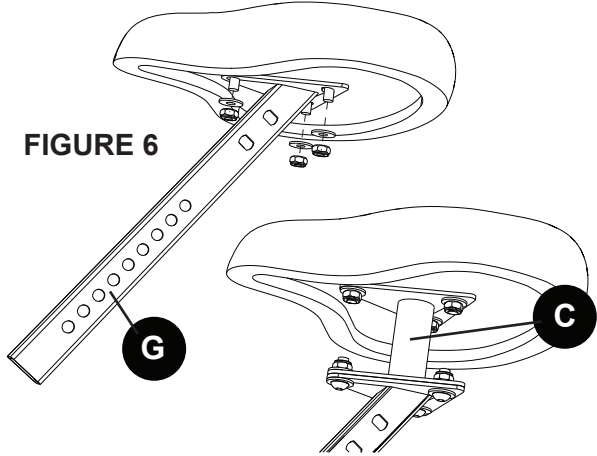

FIGURE 6
Step 6: Assemble the Saddle (A) to the Saddle Tube (G), using attached wrench (BB1) Figure 6